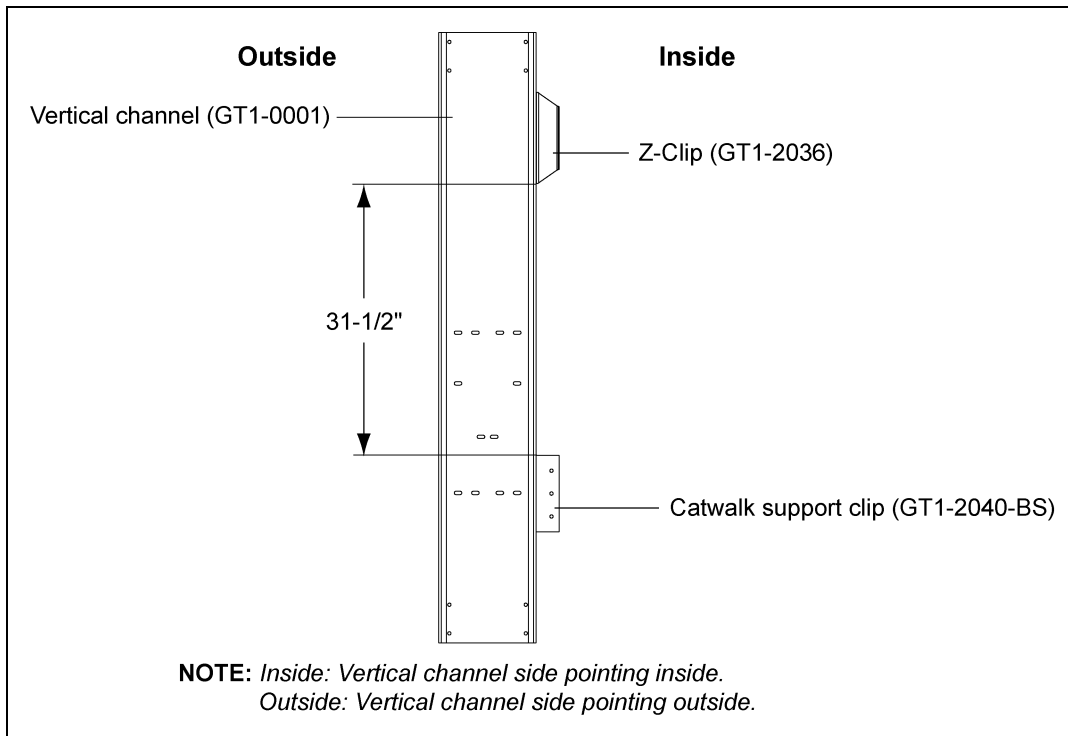

Figure 5C
2. The distance between the Z-clip and support clip for 24' inside catwalk is 31-1/2". *(See Figure 5C.)*